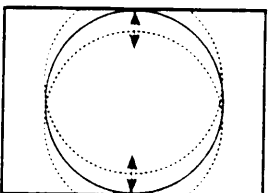

Fig 7.
- d: Adjust the vertical size to obtain overscan (fig.7)